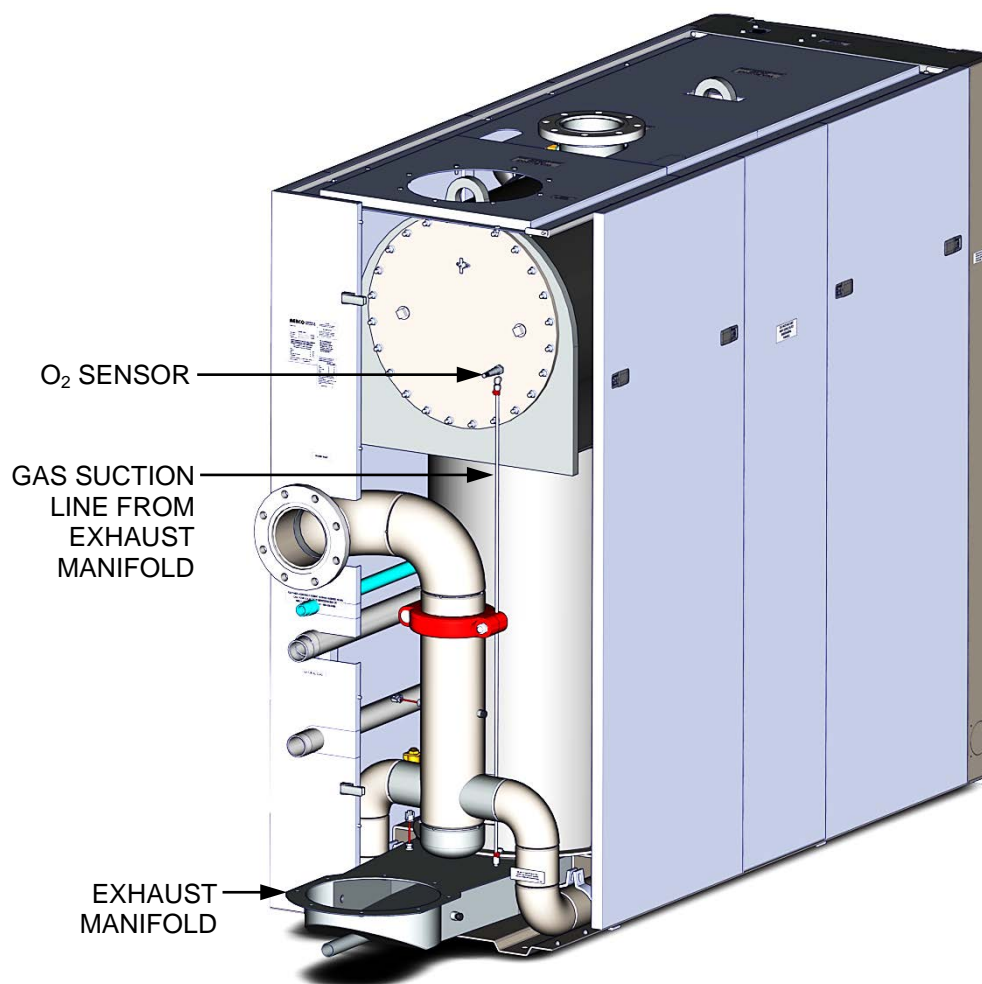

Figure 7-2: O₂ Sensor Mounting Location
The O₂ sensor (part no. 61026) is located on the back plate at the right side of the unit as shown in Figure 7-2. As this Figure shows, there is also a gas suction line that supplies a sampling of the exhaust gases from the exhaust manifold to ensure accurate sampling of the O₂ levels. The sensor and the suction line may be hot, therefore allow the unit to cool sufficiently before removing or replacing the O₂ sensor.
2. Remove the rear right-side panel from the unit by removing the screws at the top and rear (Figure 7-2).